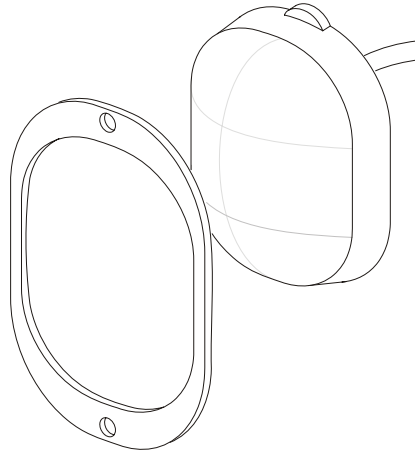

Figure 3 Cargo Area LED Fitting
**13. To remove a LED fitting (Figure 3):**